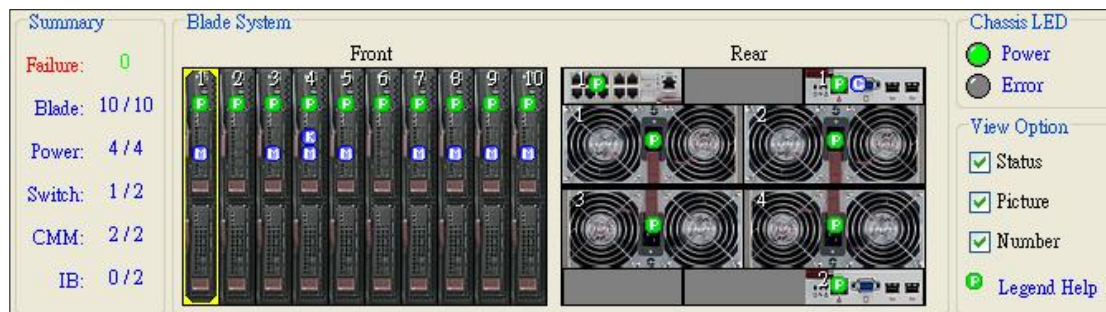

Figure 2-4
- **Blade System:** The Blade System View shows both front and rear views of the blade system. The front view shows blade module status while the rear view shows the status of the power supply, gigabit switch, InfiniBand and CMM. A yellow rectangle appears around an icon when it is selected (Figure 2-4). Each module has symbols to display its current status. Each SuperBlade module may display one or more symbols. Refer to the Legend Help (Figure 2-4) to determine the meaning of a symbol. (Click **Legend Help** in the View Option window at the lower right area of the window to view the symbols and their meanings.)